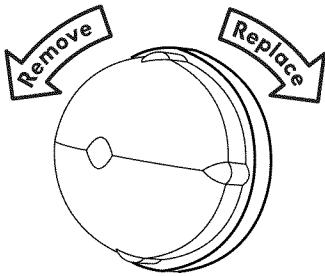

Figure 3 - Glass shield removal
3. Replace the glass shield (fig.3). **The glass shield must be in place whenever the oven is in use.**